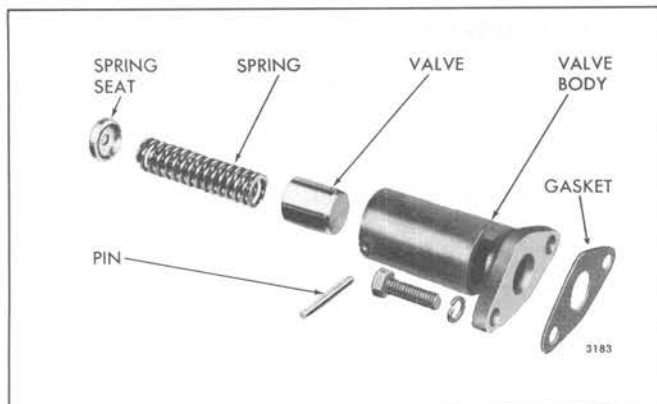

Fig. 3 – Oil Pressure Regulator Valve and Relief Valve Details and Relative Location of Parts (12V and 16V Engines)
3. Remove the spring seat, spring and valve from the valve body (Fig. 3).